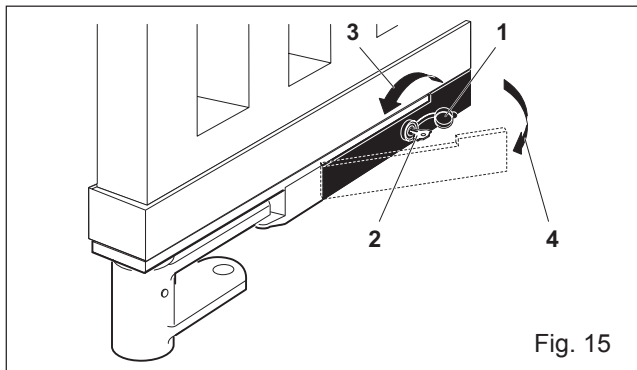

Fig. 15
- Open the lid of the lock (Fig. 15 - Ref. 1).
- Insert the release key in the lock (Fig. 15 - Ref. 2).
- Turn the key in the direction of the post, as far as it will go (Fig. 15 - Ref. 3).
- Pull the lever out (Fig. 15 - Ref. 4).